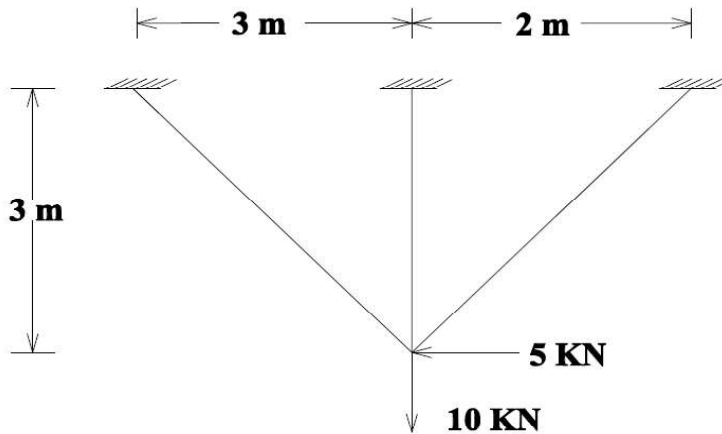

Fig.4
2. Compute the forces in the members of the truss shown in Fig.4 by finite element method. Take $E = 200 \text{ GPa}$.